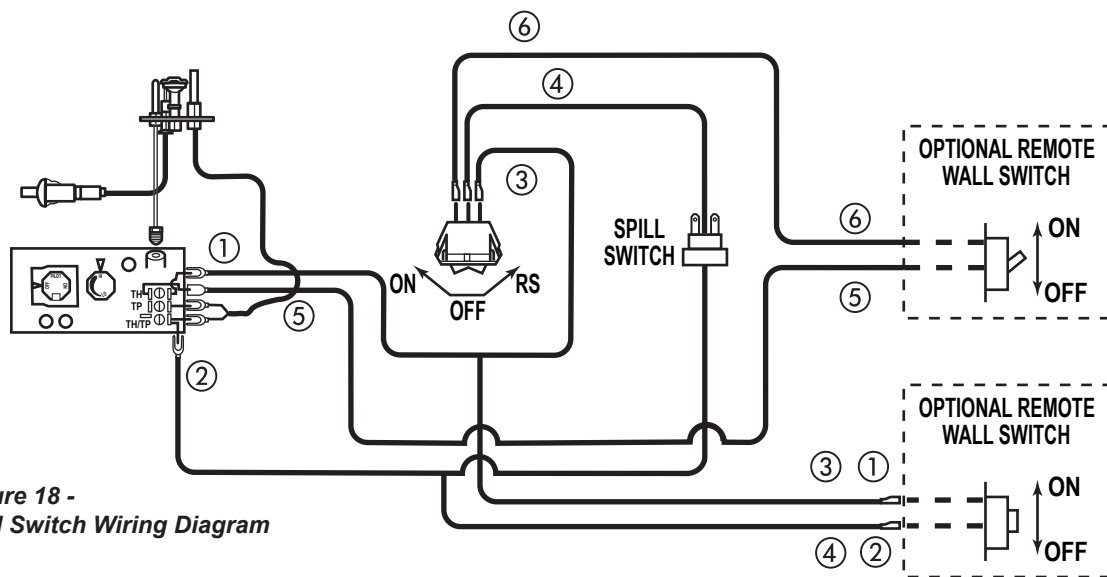

Figure 18 - Wall Switch Wiring Diagram
A remote wall switch and up to fifteen (15) feet of 18 Ga. wire may be used with this appliance. Attach the wall switch in a junction box at the desired location on the wall. *Figure 18*. Do not extend beyond the wall switch wire length provided.
2. Connect the wire terminal from the remote receiver. This replaces the 15' wall switch connection to the switch. *Figure 18*